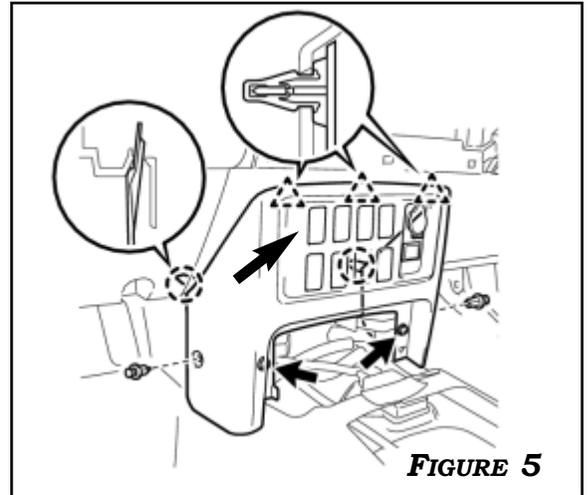

FIGURE 5
5. REMOVE THE 2 CLIPS AND 2 BOLTS. DISENGAGE THE 3 CLIPS AND 2 CLAWS AND REMOVE THE INSTRUMENT LOWER COVER. PRESS IN TABS TO REMOVE THE SWITCH BLANK PLUG. **FIGURE 5**